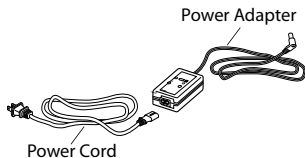

Figure 4
- 1 Plug the power cord into the power adapter. See Figure 4.